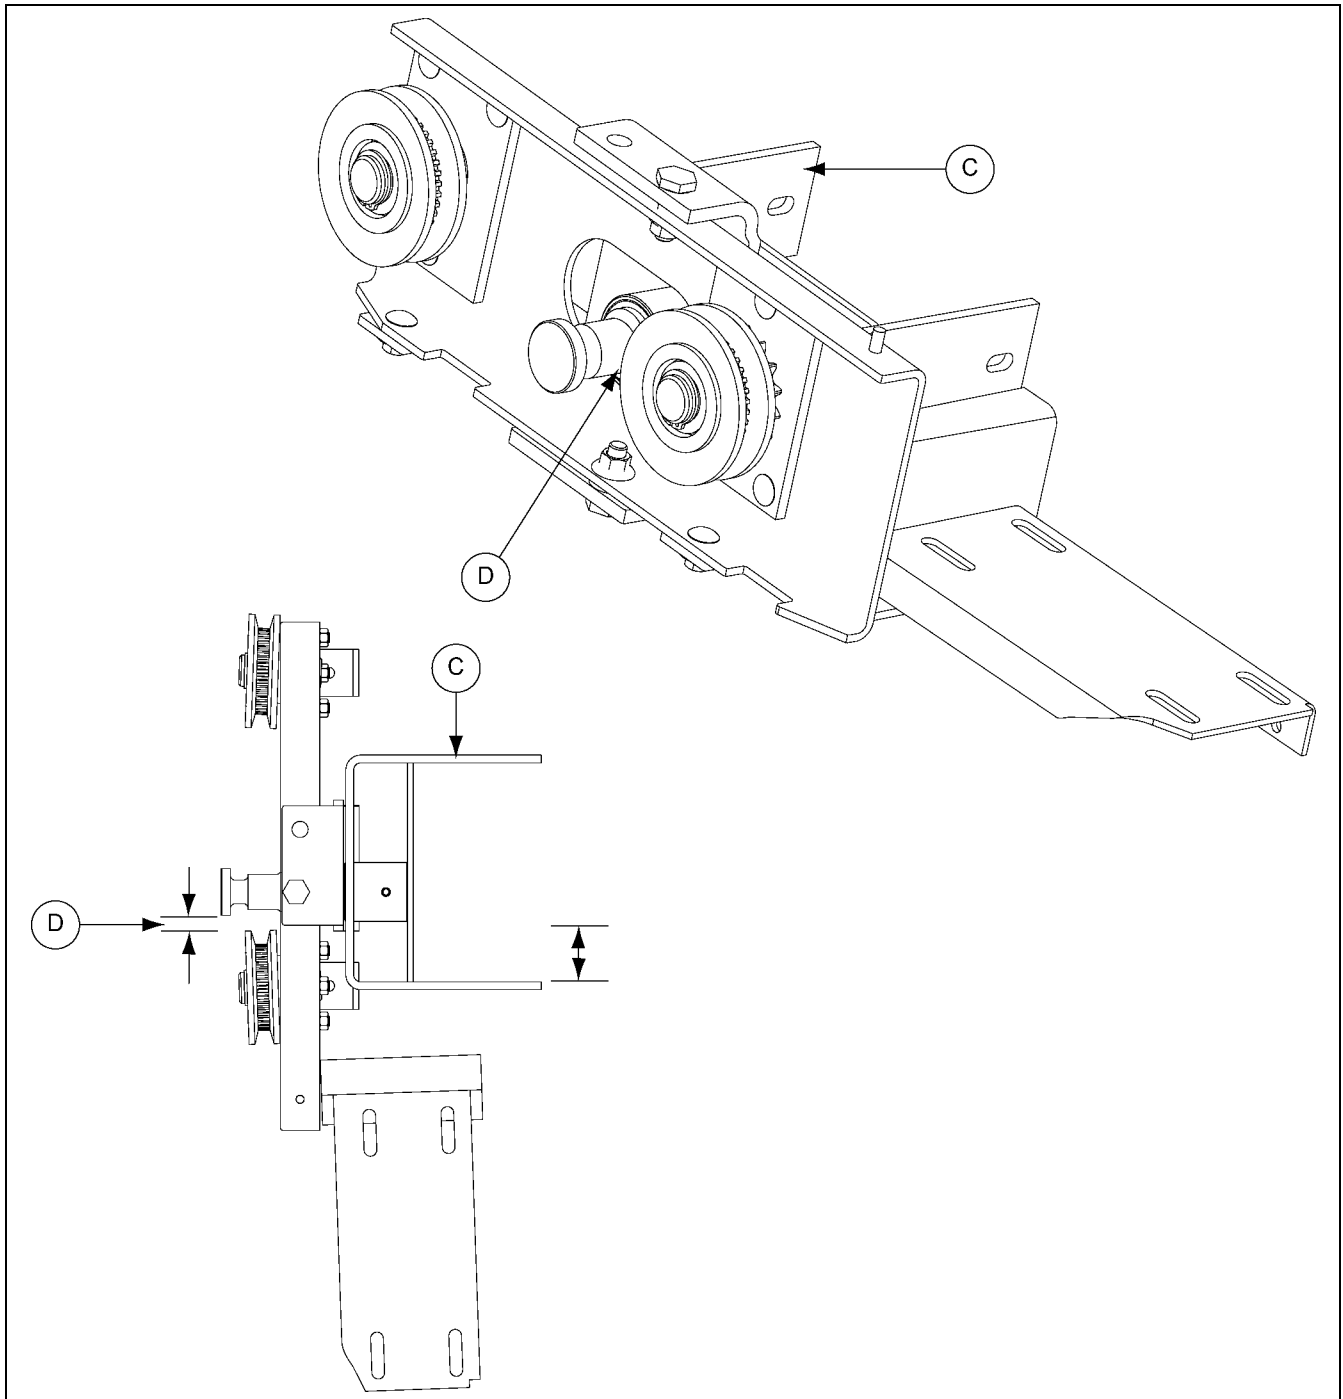

Figure 2 *Correct, 1.5 HP Position*
5. Verify the pivot bracket is positioned **correctly**. It will have a greater offset distance and be located on the same side of the machine as the down auger (C) and the pivot shaft will be positioned next to the gear motor in the slot (D). (See Figure 2.)